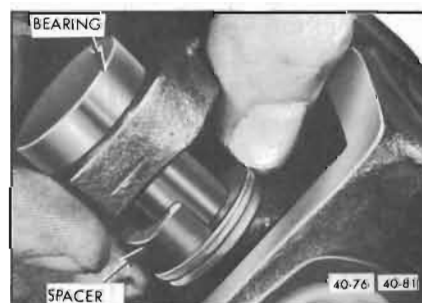

Figure 40-81—Installing Spacer
4. Release the pump and remove the propeller shaft. Install Spacer J-9522-5 over the spider journal at the space provided with bearing forced partially through the yoke. See Figure 40-81. Reposition the propeller shaft in the fixture as before and force the bearing completely out of the yoke with the